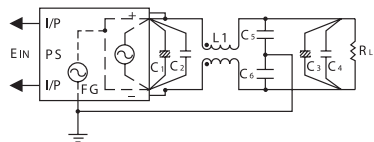

Figure 15: Ripple noise suppression
- a) Differential-mode noise suppression: As in figure 15, adding C1 to C4 can reduce the noise. C1 and C3 are electrolytic capacitors (reference value: 47 uF to 100 uF), while C2 and C4 are high frequency capacitors (reference value: 0.01 uF to 0.1 uF). In general, adding C3 and C4 is good enough to reduce this noise.
- b) Common-mode noise suppression: As in figure 15, adding L1, C5, and C6 can reduce the common mode noise, which C5 and C6 are high frequency capacitors.